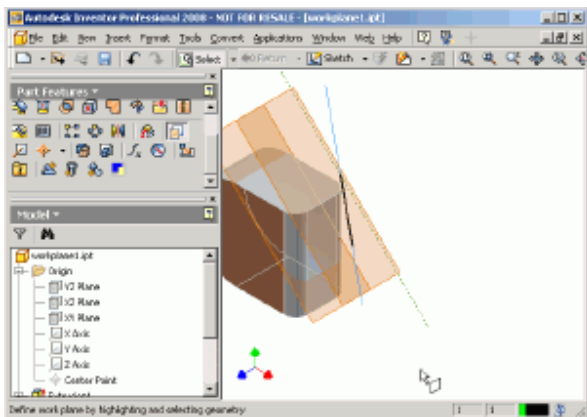

Figure 13: Create a sketched line on the workplane
2. Use the second angled workplane to create a new sketch. Sketch a line angled from one of the origin axis (Figure 13).